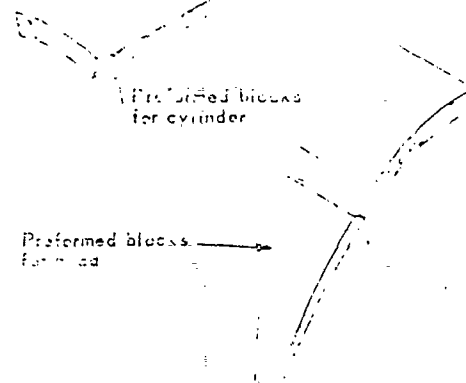

FIGURE 1
3.1 Insulation on equipment shall be cut and applied snugly with joints tightly butted together. The Figure 1. Insulation 1 inches or less in thickness shall be applied in a single layer except where the finish thickness will not readily conform to the surface being insulated. In such case, more than one layer may be necessary. Insulation over 1 inches in thickness shall be applied in accordance with the following instructions: